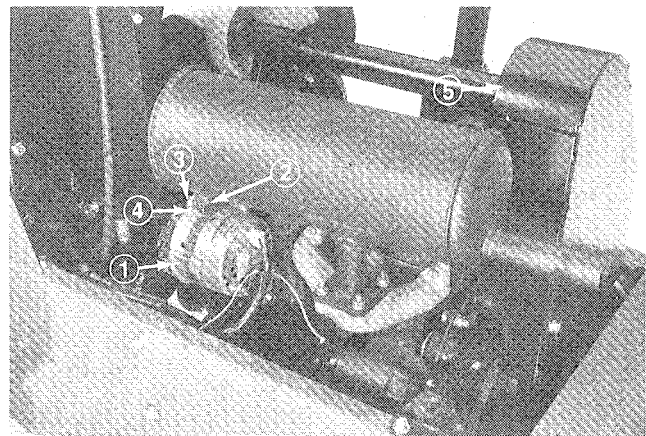

Figure 47
3. Loosen bolt securing brace to engine and bolt securing alternator to brace (Fig. 47).
4. Insert pry bar between alternator and engine and pry out on alternator (Fig. 47).
2. Remove capscrews (5) securing fan belt guard and remove guard (Fig. 47).
5. Install fan belt guard and secure with capscrews (Fig. 47). Close and latch hood.
4. Install fan belt guard and secure with capscrews (Fig. 47). Close and latch hood.